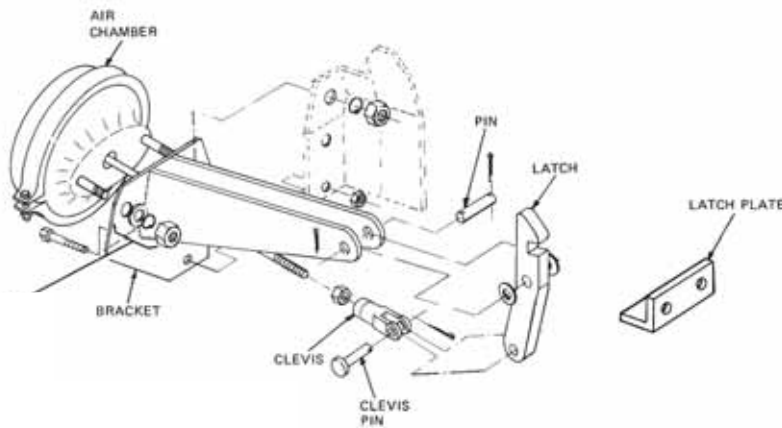

Figure 12 Dump Body Lock – Exploded View
34. **Disassembly.** Disassemble the dump body lock (Figure 12) as follows: